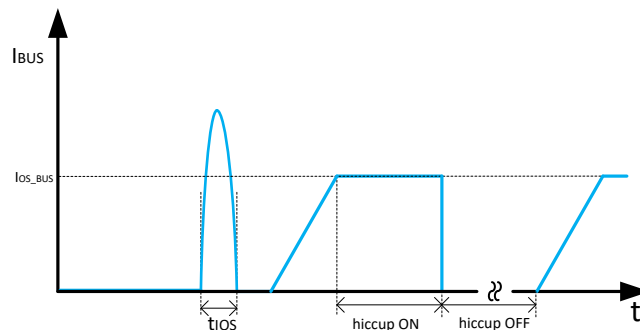

图 10-5. Response Time to BUS Short-Circuit
- The first condition is when a short circuit or overload is applied to the USB output when the device is powered up or enabled. There can be inrush current and once it triggers the approximate 8-A threshold, a fast turnoff circuit is activated to turn off the USB power switch within t_{IOS_USB} before the current limit control loop is able to respond (shown in 图 10-5). After the fast turnoff is triggered, the USB power switch current-sense amplifier is over-driven during this time and momentarily disables the internal N-channel MOSFET to turn off USB port. The current-sense amplifier then recovers and ramps the output current with a soft start. If the USB port is still in overcurrent condition, the short circuit and overload hold the output near zero potential with respect to ground and the power switch ramps the output current to I_{OS_BUS} . If the overcurrent limit condition lasts longer than 4.1 ms, the corresponding USB channel enters hiccup mode with 524 ms of off-time and 4.1 ms of on-time.